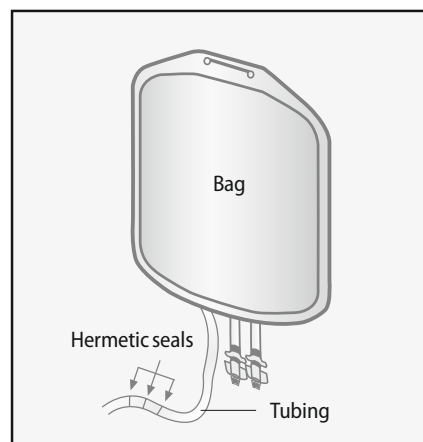

Figure 4-1.1: Sealing a bag. Use heat sealer to make the seal in the tubing. Sever at center seal.
6. Using the heat sealer, seal off the tubing and separate bags leaving at least 15 cm of tubing on the Cell Preparation for further connections (see Figure 4-1.1). Keep the original leukapheresis bag until the separation and final analysis of cells have been accomplished.